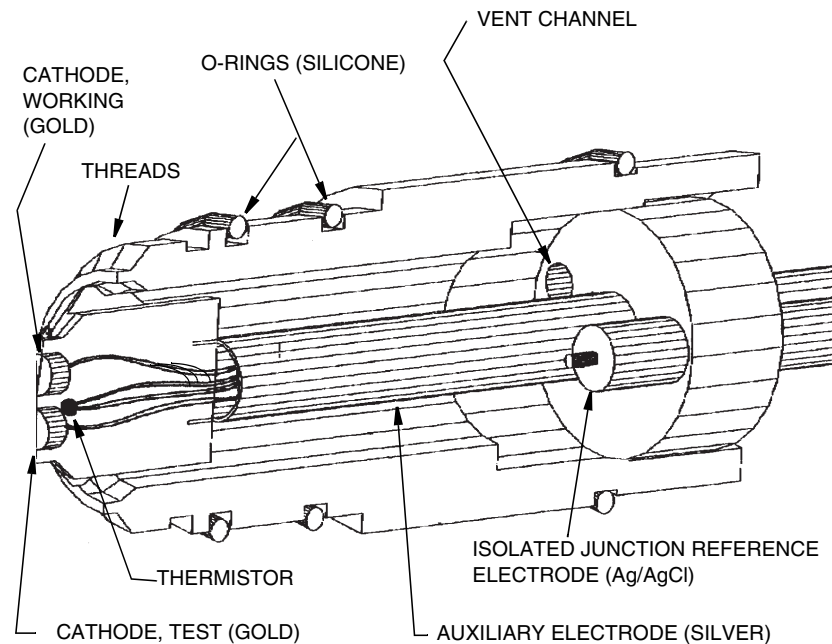

Figure 27. Location of Work and Test Electrodes and Vent Channel
6. Before installing a new O-ring or membrane cap, inspect the Test and Working electrodes for nicks or tarnish. (See Figure 27 for location of Test and Working electrodes.) If either is present, remove by polishing with a wet polishing disc (Part No. XS004DX). Rub gently in a single linear direction. Turn 90° and repeat procedure. A crosshatch pattern should result. Rinse with clean water. Dry assembly with a lintfree cloth or tissue.